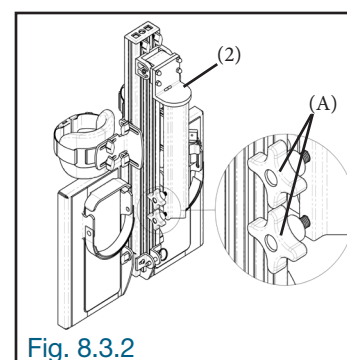

Fig. 8.3.2
8.3.2 Loosen the knobs (A) on the frame (2) slightly (Fig. 8.3.2).